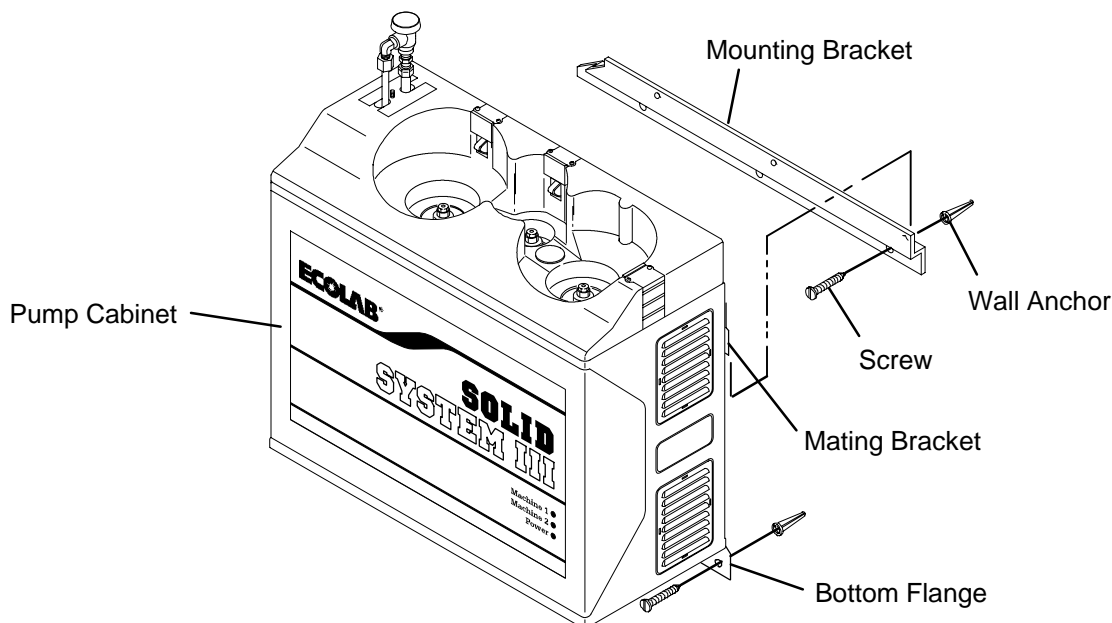

Figure 2-3
1. Position the offset mounting bracket against the wall at eye-level, *refer to Figure 2-3*.